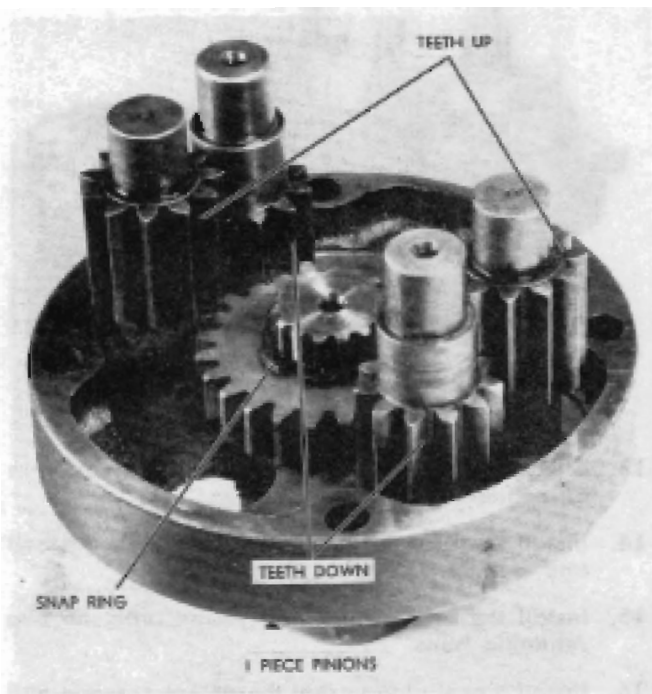

FIGURE 1A
2. Late type pinions are one piece with integral shafts. See Figure 1A and 2A.
2. Late type axles incorporate snap ring grooves and use snap rings to secure the axle gears. See Figure 1A and 2A.